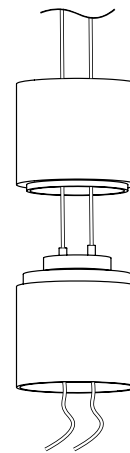

Fig.3
2. Adjust Power Cable to desired height and tighten Cable Lock to Body using Screw. (Fig. 3)